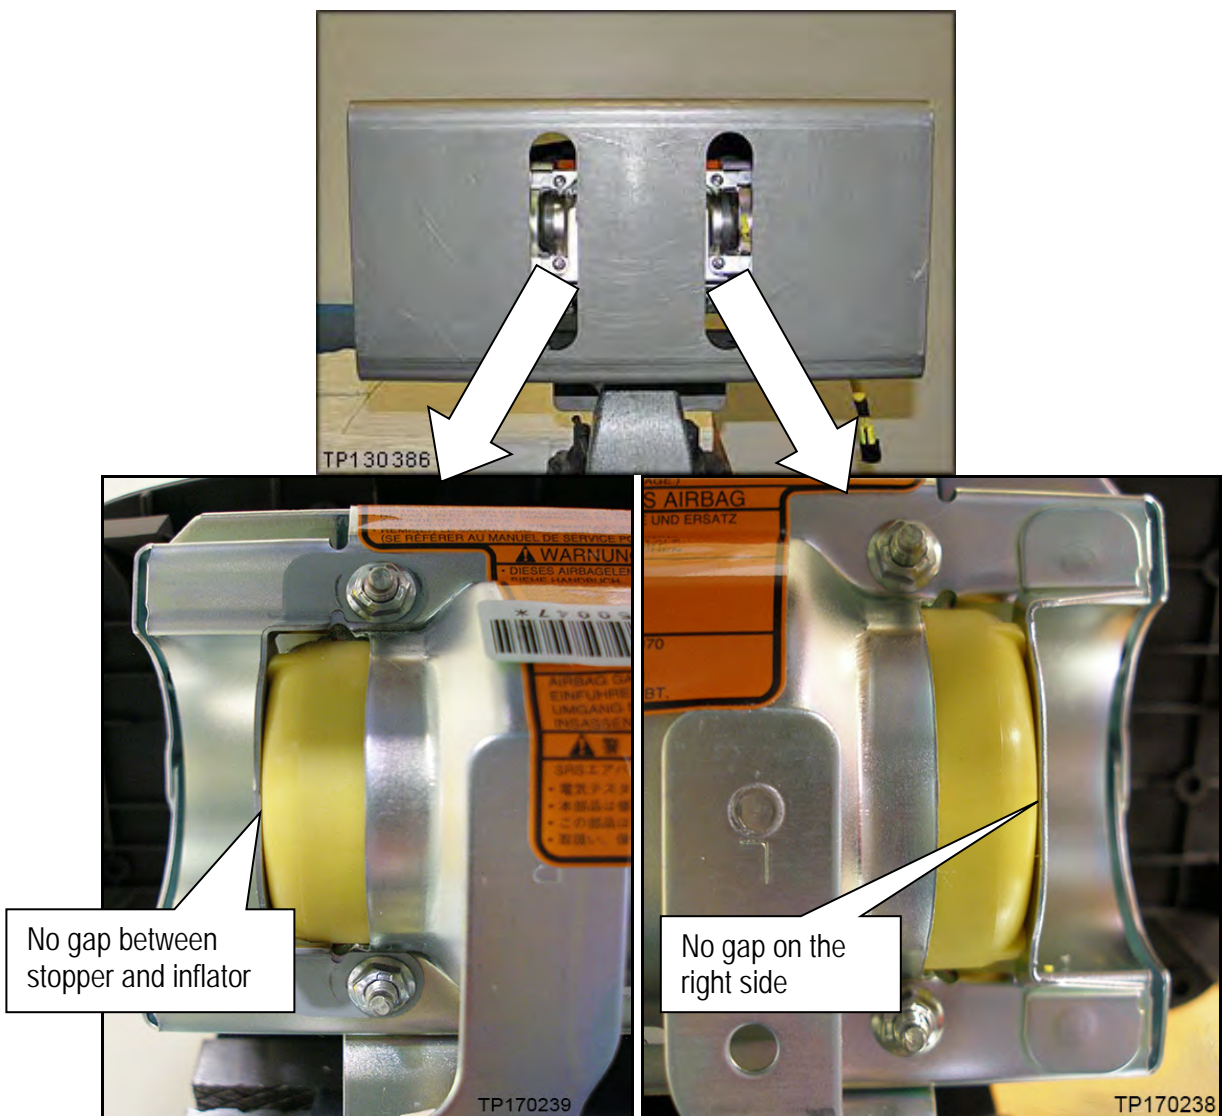

Figure 24
32. Install the four (4) inflator securing nuts finger tight (Figure 24).
33. Make sure the inflator is pushed all the way into its housing – no gap on the right side (Figure 24).
34. Make sure there is no gap between the inflator stopper and the inflator (Figure 24).